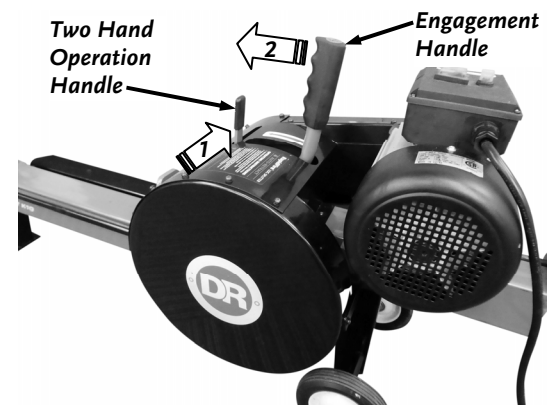

Figure 10
2. With one hand, actuate and hold the Two Hand Operation Handle towards you, then **RAPIDLY** actuate the Engagement Handle fully towards the Motor until it contacts the hard stop and hold firmly until the Ram stops (**Figure 10**).